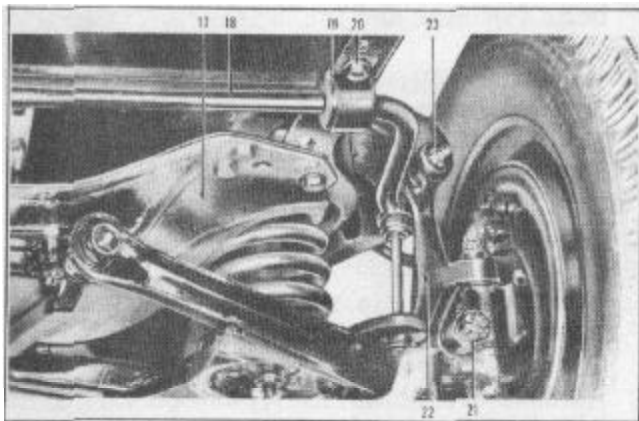

FIGURE 3
LEGEND FIGURE 3
2. Hold the steering spindle support (22), Figure 3, squarely between the yoke of lower support arm (1), Figure 1.